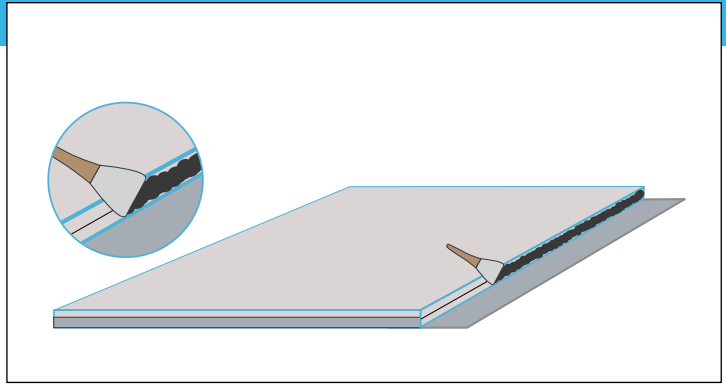

Fig. 15: Application of QuietSeam® RF to cut edge of panel
5. Apply QuietSeam® RF to panel edge (Fig. 15)